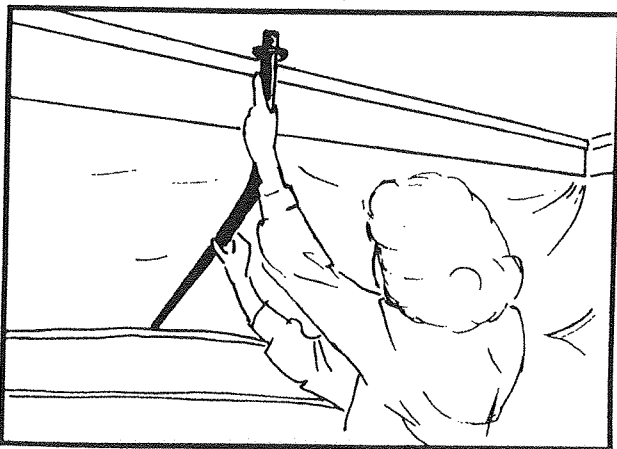

FIGURE 37
43. To complete and support the tent enclosure over the bed (front and rear), attach the bed bow support by inserting the straight end into the bed bow. Insert the rounded end of the bed bow support into the roof retainer. (See Figure 37.)
11. Detach both front and rear bed bow supports from the roof retainer and from the bed bow. Lay the bed bow supports under each mattress. See Figure 37.